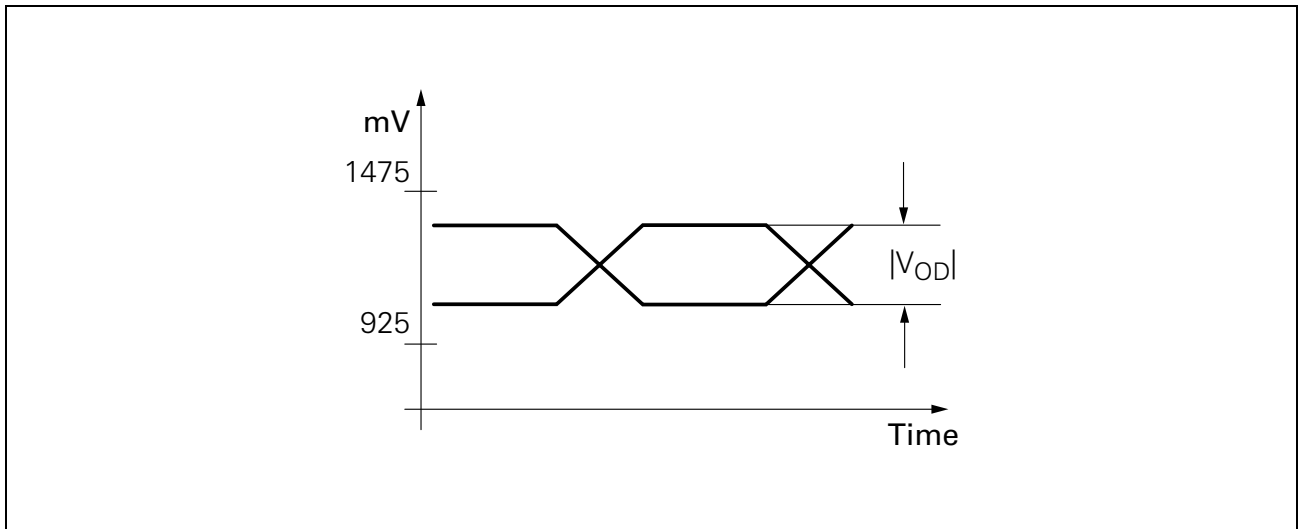

Figure 8 Output Level Diagram
1) Level diagram: see **Figure 8**